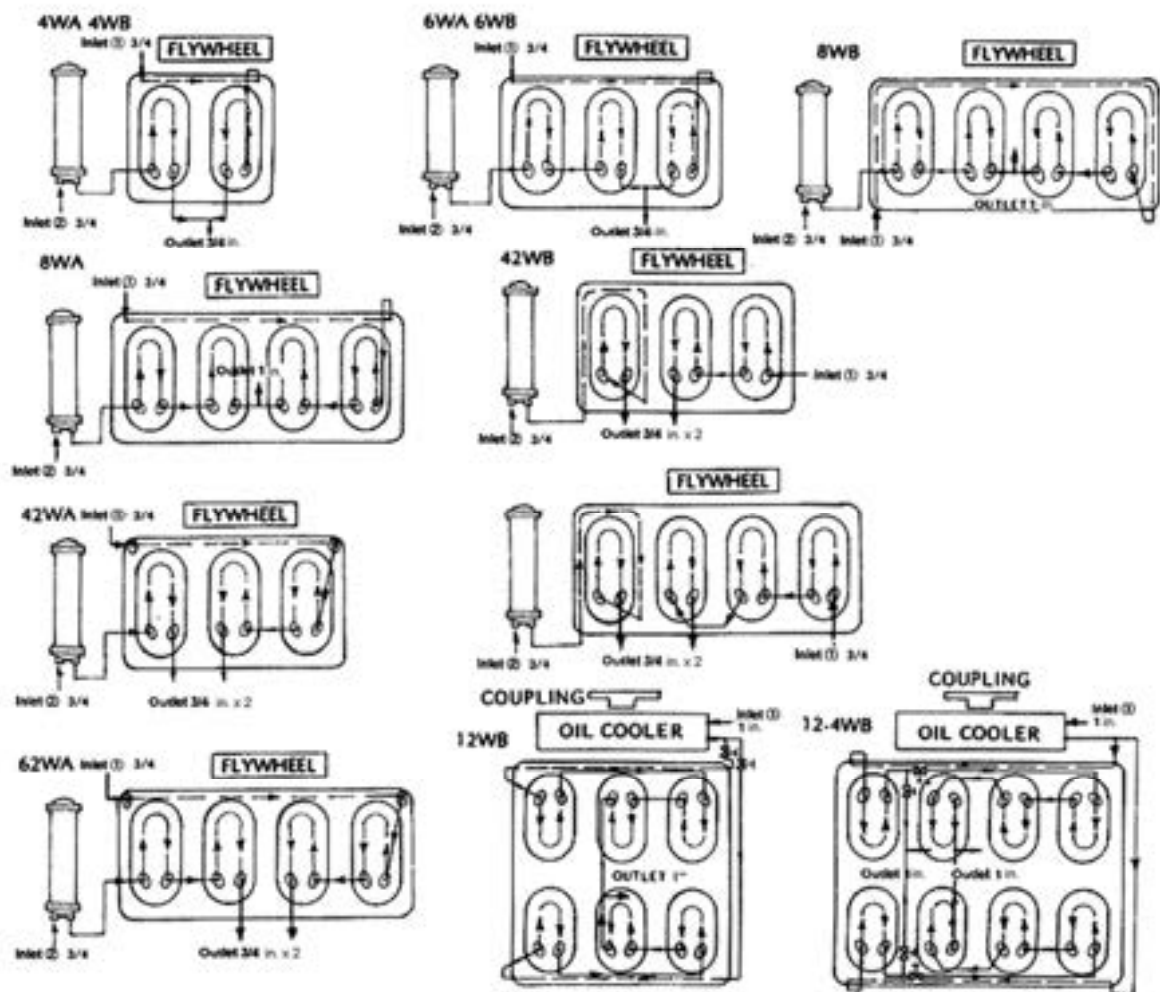

Figure 5-2 Pipe Lines for the Cooling Water (WA/WB Type Compressor)
- Figure 5-2 shows the pipe lines for the cooling water.